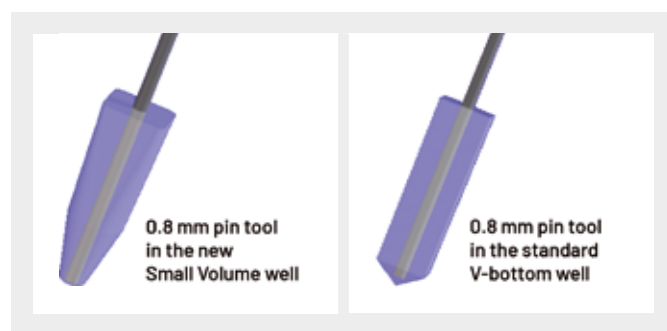

Figure 15: Positioning of pin tools.
- / The flat well bottom of design 2 was easily accessible in contrast to the standard V-bottom design (Fig. 15).
aggregate in the well bottoms of design 2, whereas the liquid within standard V-bottom wells tended to spread out (Fig. 15). Furthermore the liquid height level increased at a faster rate in design 2 in comparison to the classical V bottom well (Fig. 13). With the combination of a clearly focused access for pin tools (Fig. 15), sufficient tolerances to avoid crashes and limited space to avoid liquid distribution, well design 2 allowed a precise direct compound transfer for the postulated specification criteria. In summary, design 2 exhibited the best performance and was therefore selected as the basis for the well design.